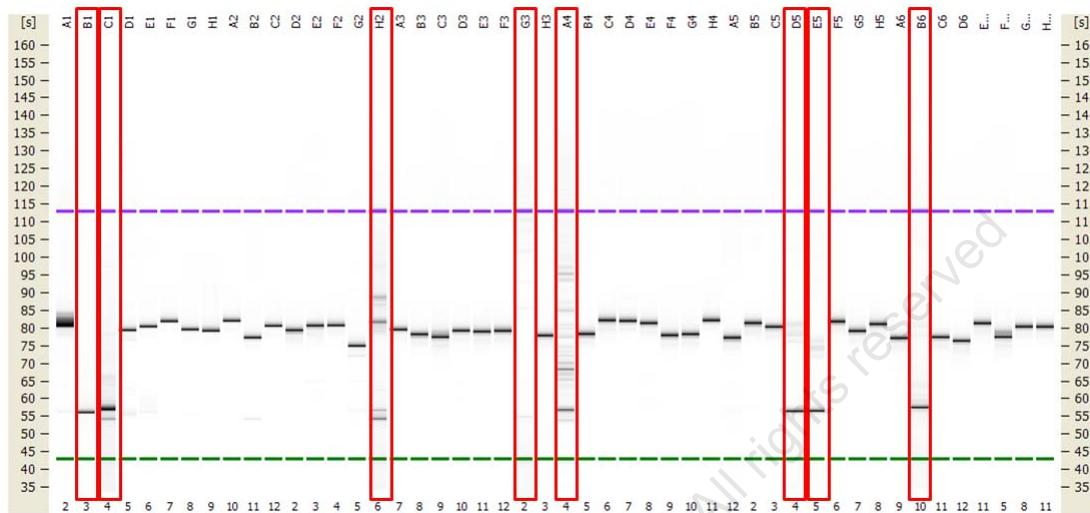

Figure 7
- 6 Figure 7 shows another example of 48 primer pairs checked on an Agilent chip. The red labeled reactions did not generate products with the correct size or generated multiple products in the PCR reactions. Therefore these primers will need to be redesigned following the instruction in Chapter 2 and validated before continuing.